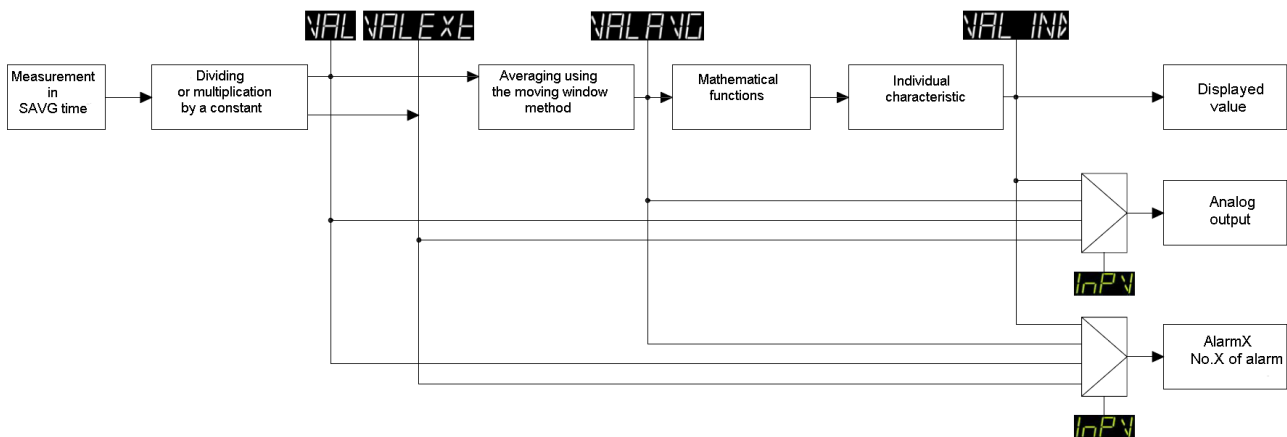
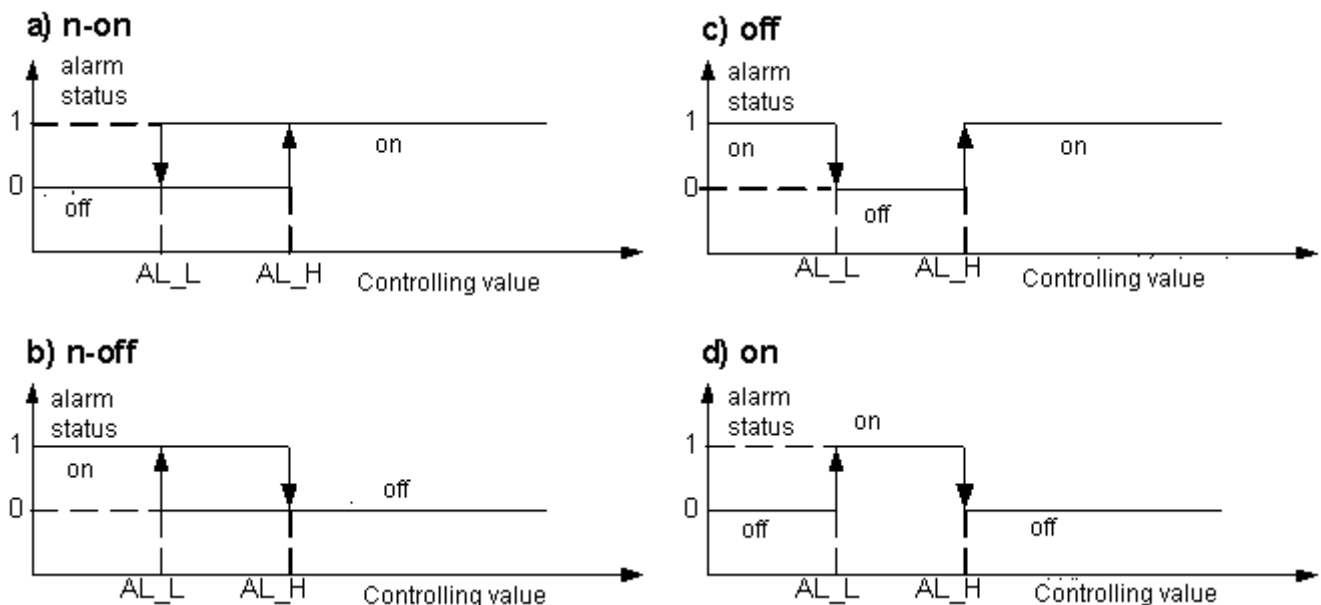

Fig. 9: Measurement recalculation.
Fig. 12: Alarm types: a) n-on; b) n-off; c) off; f) on.
As mentioned above, the measuring value is several times recalculated. The sequence of operations is shown in Figure 9.
- **InPV** – setting which defines the quantity that will control the analog output signal (see Fig. 9).
Each alarm output is independently configured and can be configured to work in one of six modes. It is possible to select the value controlling the alarm (see Fig. 9), define the alarm state change thresholds and define delays alarm activation and deactivation for each of the alarms. Fig. 12 shows how the alarms work in n-on, n-off, off and on modes. Additional manual working modes H-on and H-oFF enable to permanently activate or deactivate the alarms. An additional REG operation mode has also been added to the alarm type settings. In this mode, the alarm status is controlled via the RS-485 interface by MODBUS protocol registers.